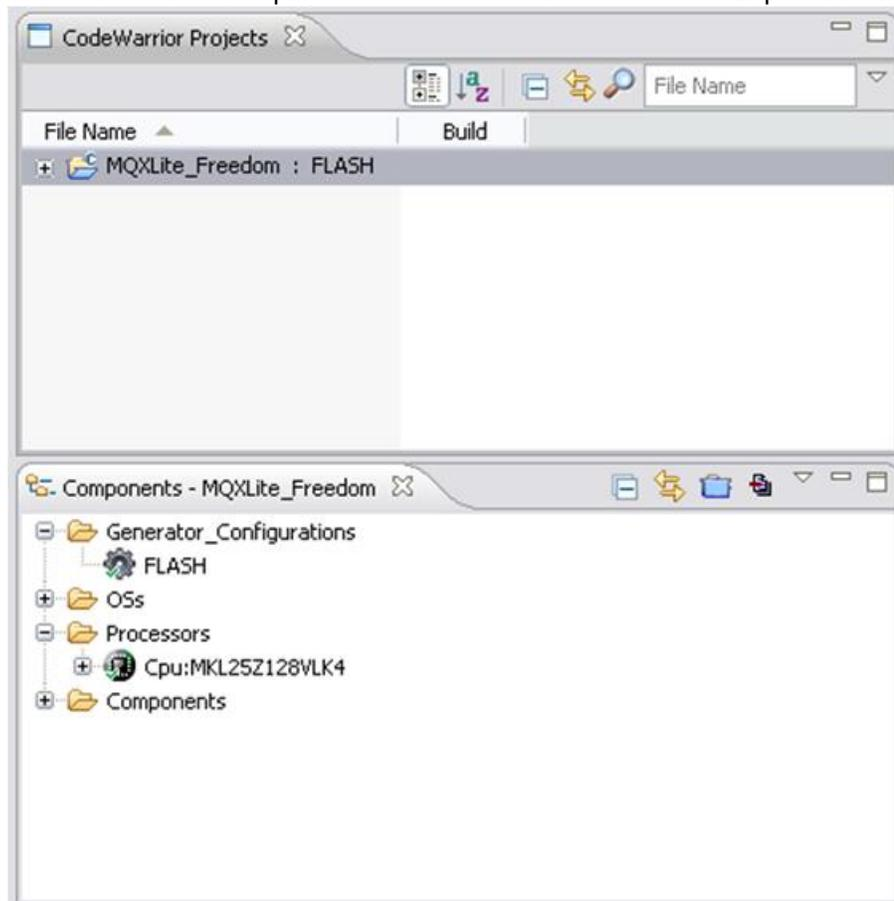

Figure 9. "CodeWarrior Projects" and "Components" windows
7. When the wizard finishes CodeWarrior has a new appearance that looks like figure 9. There are two main changes. The "CodeWarrior Projects" window has a new project included and the "Components" window shows the Processor Expert added components.